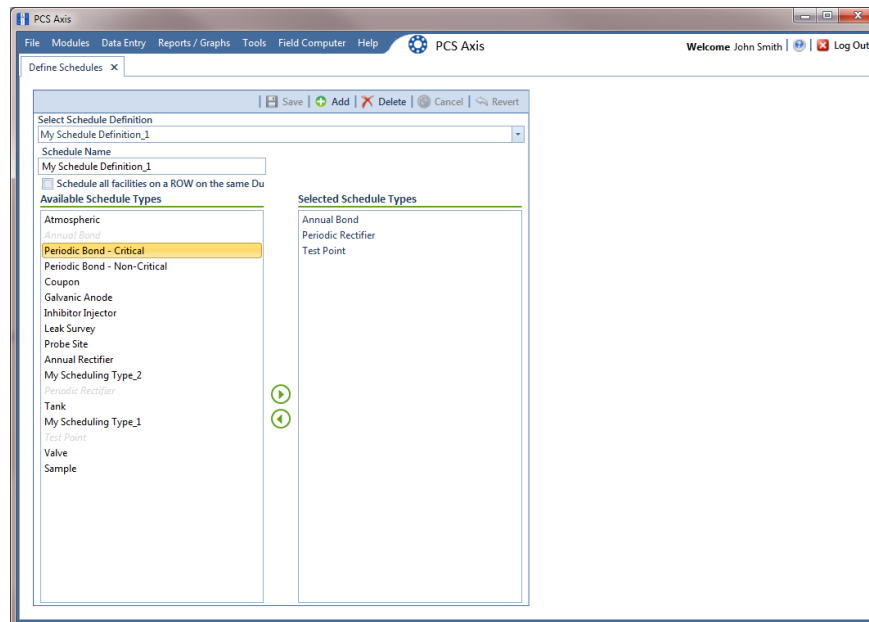

Figure 9-12. Adding a Schedule Definition Addition
- 1 Click **Data Entry** > **Define Schedules** to open the *Define Schedules* window (Figure 9-12).
- 4 Click the top arrow button  to move the schedule type(s) to the *Selected Schedule Types* pane (Figure 9-12). Click  **Save**. The addition is now available in the *Select Schedule Definition* selection list.
- 1 Click **Data Entry > Define Schedules** to open the *Define Schedules* window (Figure 9-12, page 486).